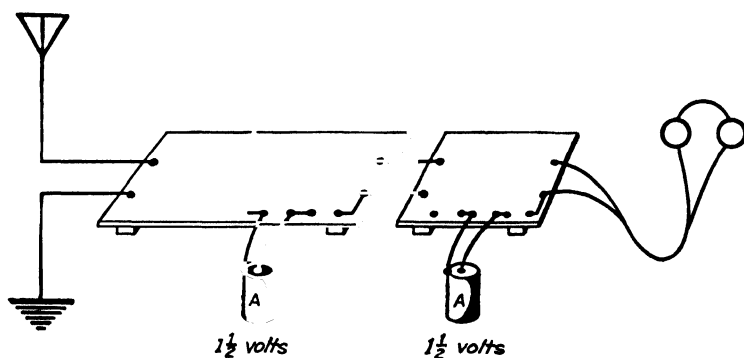

FIG. 223. Step 2, connect an A battery to the detector and to the amplifier board.
Step 2. Connect a 1 1/2-volt A battery to the detector and another 1 1/2-volt A battery to the amplifier, as shown in Fig. 223. You will learn later how to use only one A battery for the entire set.